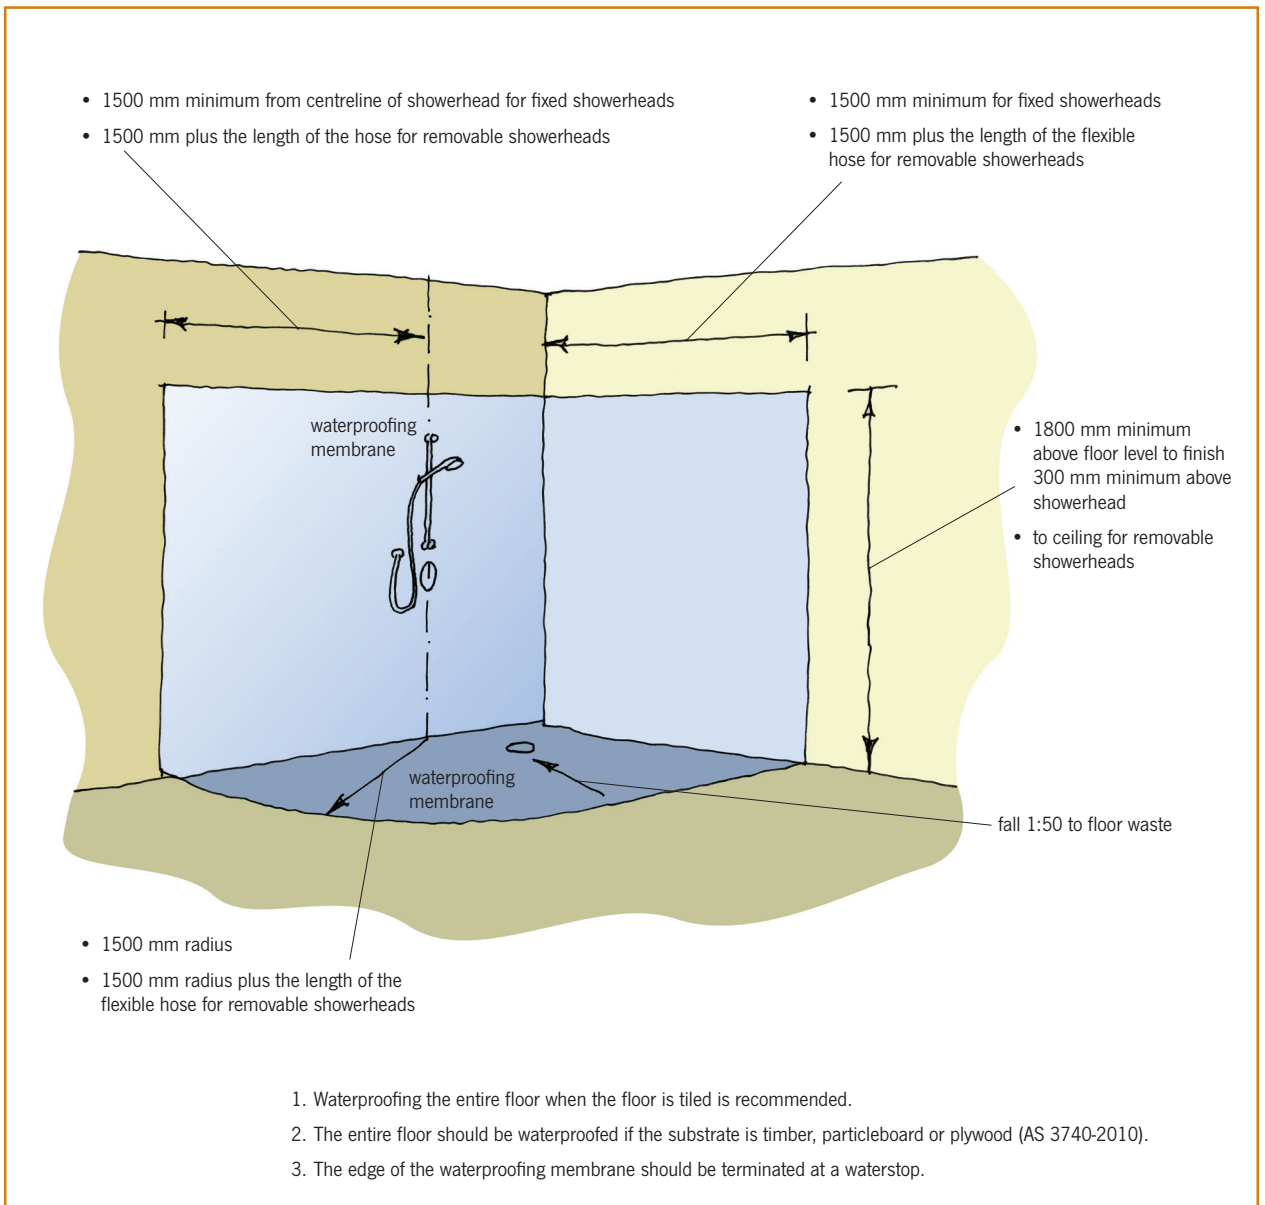

Figure 1. Required extent of waterproofing (E3/AS1).
6.1.1 Where there is no shower enclosure, both E3/AS1 and AS 3740-2010 require the floor to be waterproofed a minimum 1500 mm horizontal radius from the point of the showerhead plus (for E3/AS1) the length of the flexible hose if the showerhead is removable (Figure 1).
6.2.1 E3/AS1 requires waterproofing (and AS 3740-2010 requires water resistance) on walls a minimum 1500 mm horizontally from the centreline of the showerhead where there is no shower enclosure plus (for E3/AS1) the length of the hose if the showerhead is removable (Figure 1).